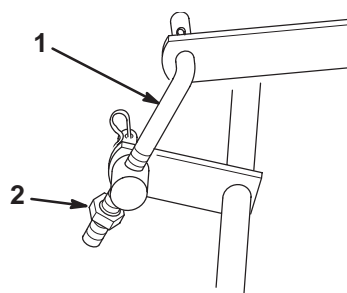

Figure 17
1. To adjust the front-to rear blade slope turn the locknut on rear adjustable link (Fig. 17).